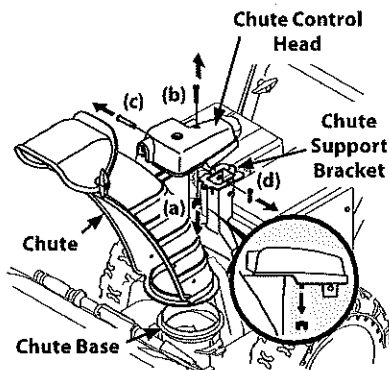

Figure 2-7
1. Remove wing nut (a) and hex screw (b) from chute control head and clevis pin (c) and cotter pin (d) from chute support bracket. Position chute assembly (forward-facing) over chute base. See Figure 2-7.